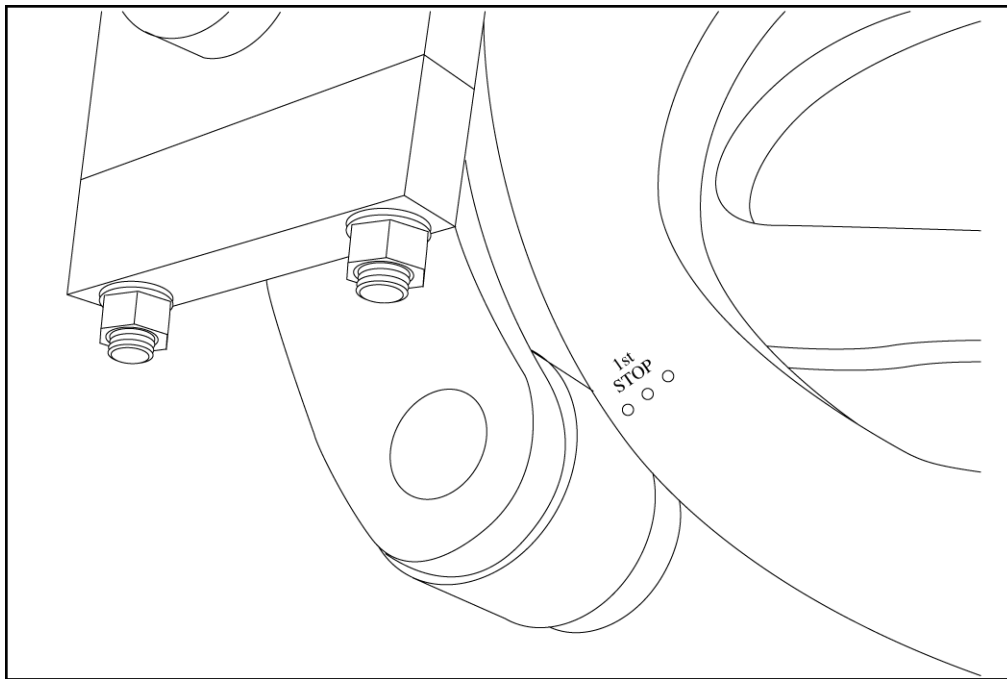

Figure 4.47 "FIRST STOP" (R.H. SIDE OF MACHINE)
- 4.4.1 Run machine to "first stop" (see figure 4.47).